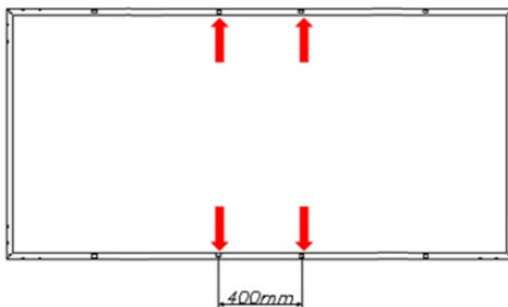
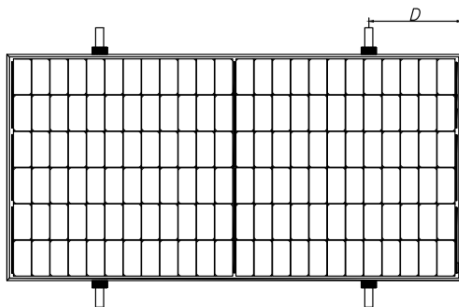
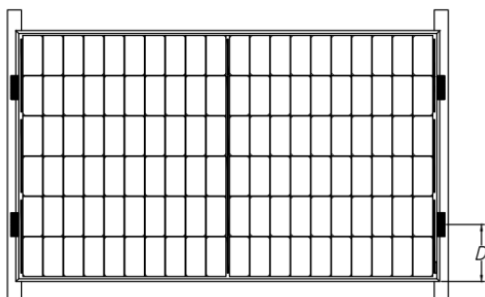

Figure 8: 400mm spacing bolt installation
Figure 11: Rail vertical long frame installation
Figure 12: Rails overlapping for the short-side of frame
Photovoltaic modules can be installed across the support frame (Figure 11) or parallel to the frame of the photovoltaic module (Figure 12). When using clamps to install, each photovoltaic module must be fixed with at least 4 clamps.
- ⑦ For the installation method shown in Figure 8, the modules need to be fixed with professional solar pressure blocks (as shown in Figure 11), and the overlap between the C surface of the module and the guide rail should be ≥ 15 mm. If improper fixtures or incorrect installation methods are used, the limited warranty will be invalid.
In order to ensure the normal operation of the system, when connecting photovoltaic modules or connecting loads (such as inverters, batteries, etc.), observe to ensure that the polarity of the cable is connected correctly. If the PV module is not connected correctly, the bypass diode may be damaged. Figure 12 shows the connection of photovoltaic modules in series and parallel. PV photovoltaic modules can be wired in series to increase the voltage. The series connection is to connect the wiring from the positive terminal of one photovoltaic module to the negative terminal of the next photovoltaic module. PV photovoltaic modules